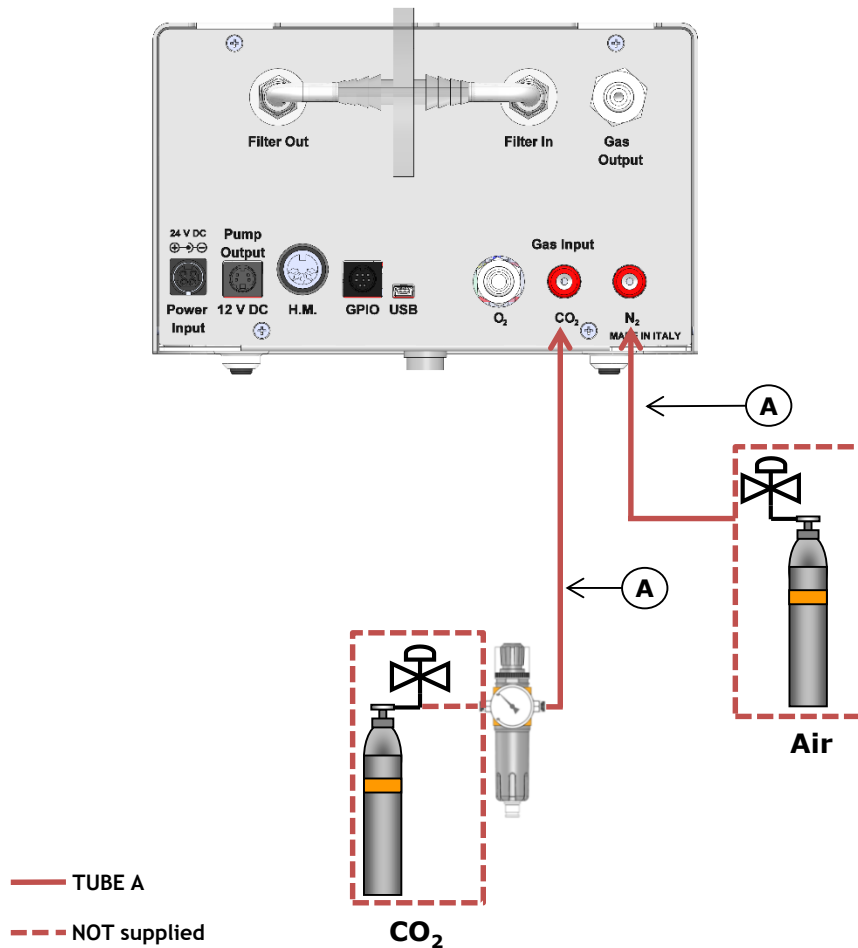

Figure 13. CO₂ and Air tanks connections to the back panel of CO₂-O₂-UNIT-BL [0-20; 1-95].
6. Figure 13 shows the connections between the CO₂ and Air and the respective connectors on the rear panel of CO₂-O₂-UNIT-BL [0-20; 1-95] when you work in *CO₂ in Air* mode. In this case, you have to connect the Air supply to the N₂ connector on the rear panel of CO₂-O₂-UNIT-BL [0-20; 1-95].
When you work in CO_2 in Air mode nothing needs to be connected to O_2 Input on CO_2 - O_2 -UNIT-BL [0-20; 1-95] rear panel. If an Oxygen tank was previously attached, no need to disconnect it because in this working mode, the Oxygen valve is automatically closed. Air has to be connected to the N_2 Input, from an Air tank/compressed line, and a CO_2 tank has to be connected to CO_2 Input (see Figure 13).